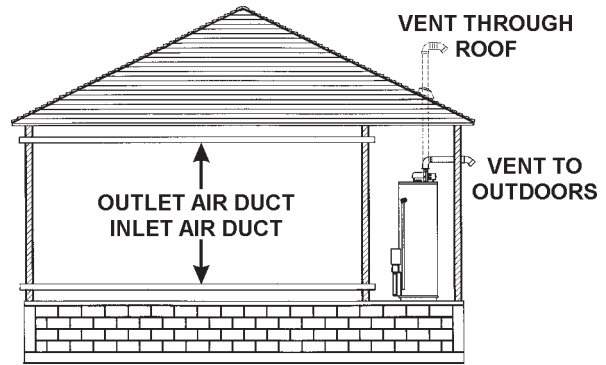

FIGURE 20.
- When communicating with the outdoors through horizontal ducts, each opening shall have a minimum free area of 1 square inch per 2,000 BTU per hour (11 cm²/kW) of total input rating of all equipment in the enclosure, see Figure 20.
they connect. The minimum short side dimension of rectangular air ducts shall not be less than 3 inches (76.2 mm), see Figure 20.